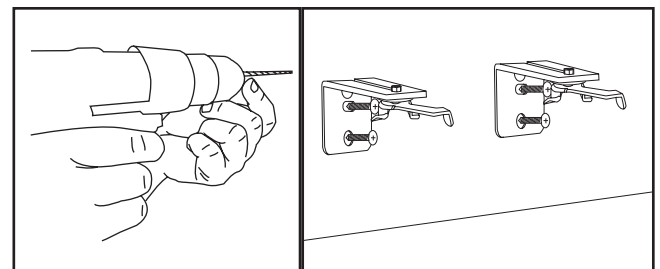

Figure 9 - Drill pilot hole and install brackets
B) **If drilling into studs**, wall anchors are necessary. Carefully drill a pilot hole for all screws. Use a 7/64" drill bit for the pilot holes if using the provided screws. Place the bracket against the wall, lining the holes in the bracket up with the holes in the wall. Screw in each screw until secure. Make sure your screw has solid embedment into the stud. Do not over torque. There should be no bracket movement after installation. Top of bracket should be level after installation. See Figure 9.